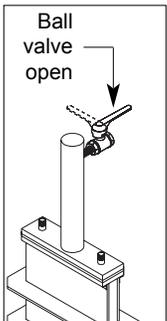

fig. 4
6. Open the ball valves of the guillotine cylinders — *fig. 4*.
3. Clean and pour fine oil on all moving parts of the reversing mechanism. — *fig. 4 in gray*.
3. Clean the reversing mechanism with solvent before lubricating — *fig. 4 in gray*.